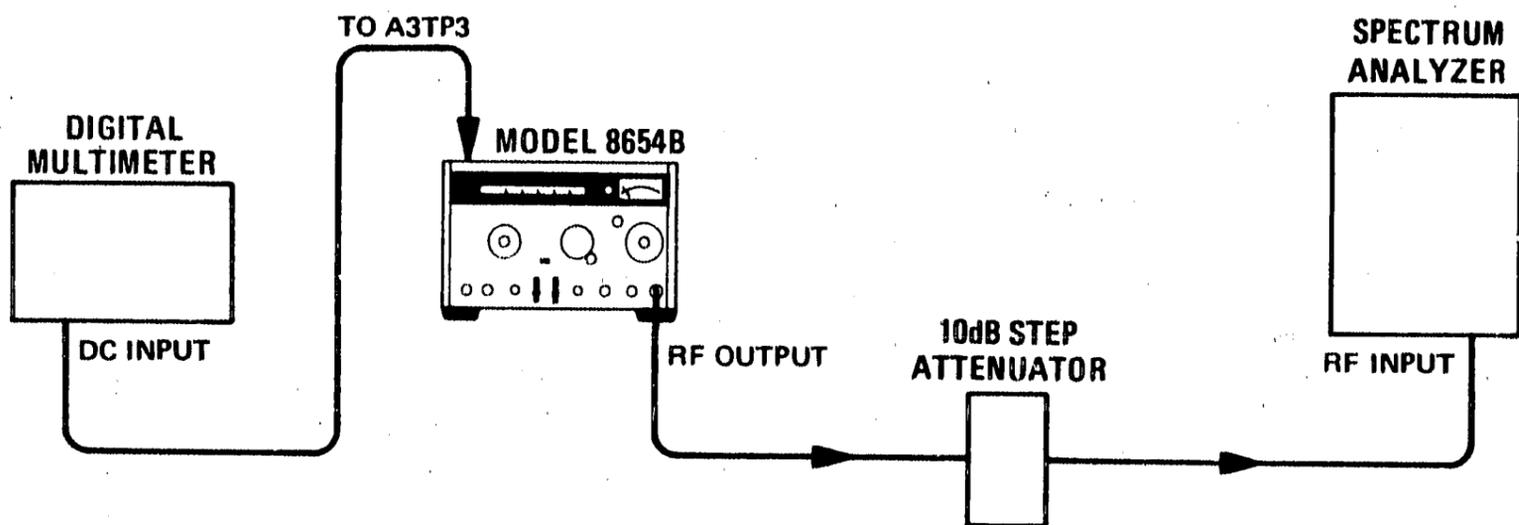

Figure 5-1. Detector Bias and AM Distortion Adjustment Setup
- 3. Connect equipment as shown in Figure 5-1 after setting Signal Generator controls as follows: